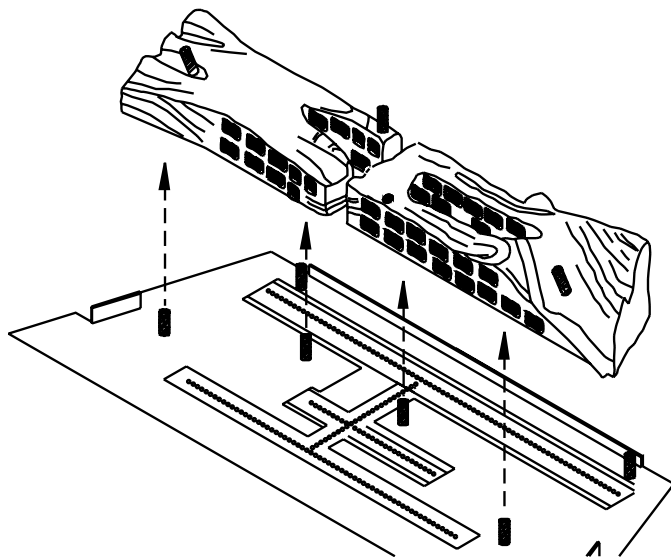

Figure 11
- 4) Rotate the right front log (3018 is cast into its bottom surface) so the black charred surface is toward the front. Place this log so the two holes in its bottom surface slide onto the two pegs on the right side of the air control panel. See Figure 11.
- 5) Rotate the left front log (3017 is cast into its bottom surface) so the black charred surface is toward the front and place it on the pegs protruding from the left side of the air control panel as shown in Figure 11.